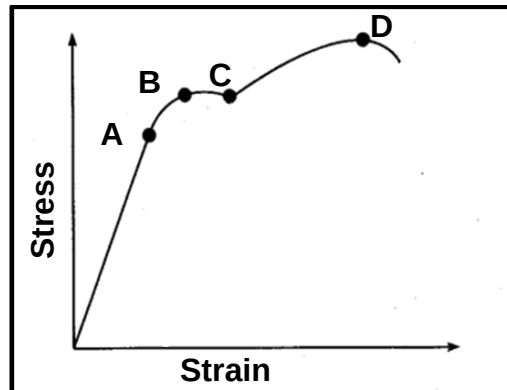

FIGURE 8.4
8.4 FIGURE 8.4 below shows a stress-strain diagram. Label A–D.